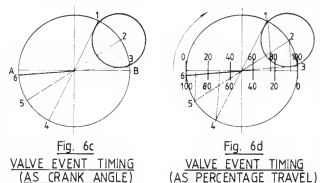

Fig 6c
- Valve Event Timing.** The valve events of cut-off, release, compression and admission occur at the crank angles at which the valve has just closed or just about to open the cylinder ports (i.e. the valve opening is zero). Thus the crank positions for these points must be when PL and PE equal zero. This occurs when the crank angle positions are tangent to the steam lap circle or passes through E for the exhaust controlled functions. Figure 6c shows the diagram with
TABLE 1 VALVE EVENT TIMING (Fig. 6c)
1. **Crank Angles.** Bilgram's diagram is based on crank angles at the valve events, not percentages of piston travel, thus the specified percentages need to be converted to crank angles. In Figure 7a, a circle to represent the crank rotation with centre O is drawn with a diameter AB chosen so that it is readily divided into 10 equal parts, hence AB with $\frac{1}{4}$ " divisions is $2\frac{1}{2}$ inches. Assuming that the connecting rod is of infinite length, vertical lines at right angles to AB are drawn at the 30% and 85% travel points for the inward stroke. The intersections of these lines with the crank circle are identified C and R respectively as shown in the Figure. The lines OC and OR give the nominal crank angles for cut-off and release. Figure 6c shows that the steam lap circle is tangential to the crank angle OC.